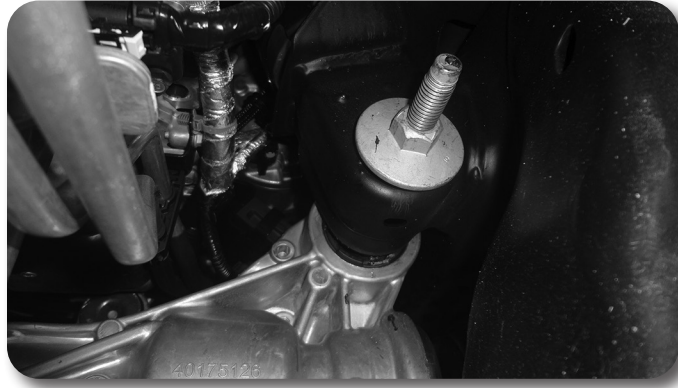
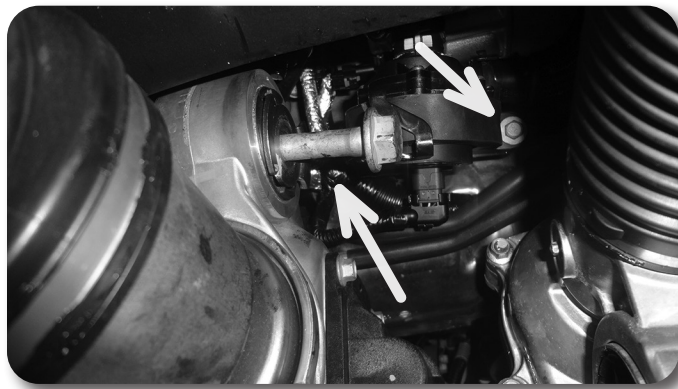

Figure 19A
Figure 19B
26. Remove the nut from the passenger's side differential mounting bolt Fig. 19A. Carefully lower the differential to the ground while removing the long bolt for the passenger's side differential mount Fig. 19B. Discard the bolt, save the nut for
The bolt holding the actuator may need to be removed in order to aid in removal of the long bolt for the differential. The bolt is on the right side in Figure 19B. Reinstall the bolt for the actuator after it has been removed. It also helps to push the rear of the differential upwards to point the bolt head downwards to aid in removal.